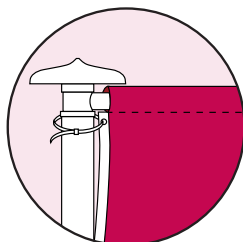

Fig 6a,
- 6, Secure plastic ties through the eyelets and around the pole. DO NOT OVER-TIGHTEN allow a two finger space between the pole and the cable tie (see fig 6a).